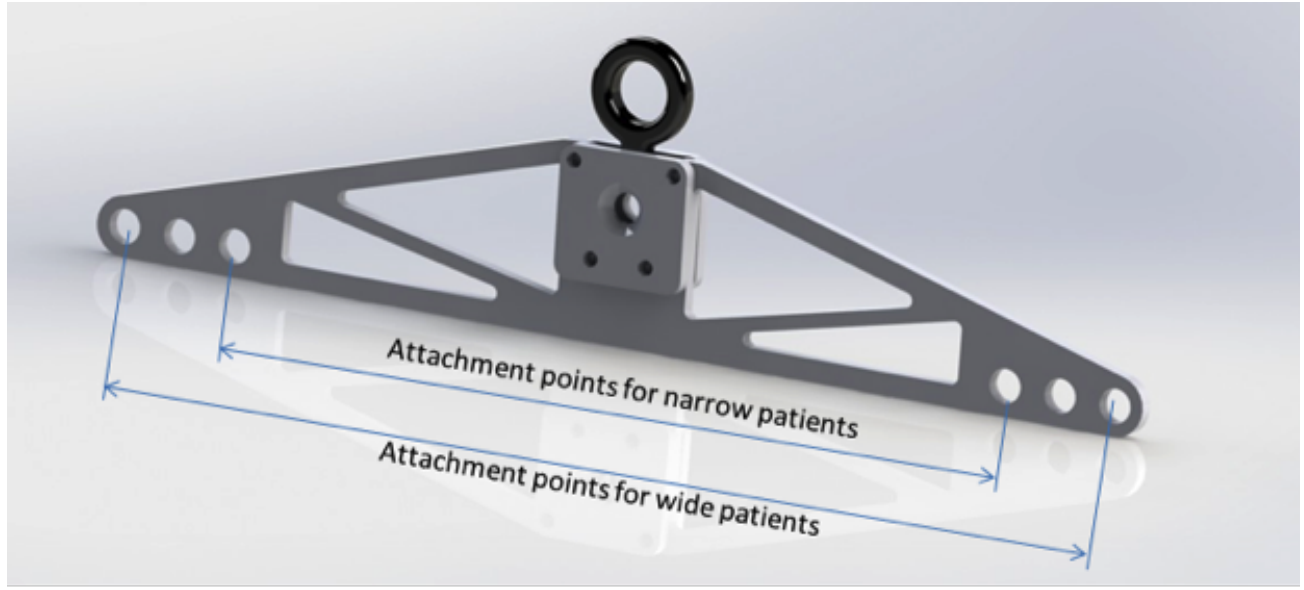

Figure 3-2: Spreader Bar attachment points.
1. The spreader bar provides three attachment points to attach the harness. The selection of the attachment point depends on the width of the patient. Connect the rope hoist to the outermost attachment points for wide patients, and to the innermost points for narrow patients. See Figure 3-2.